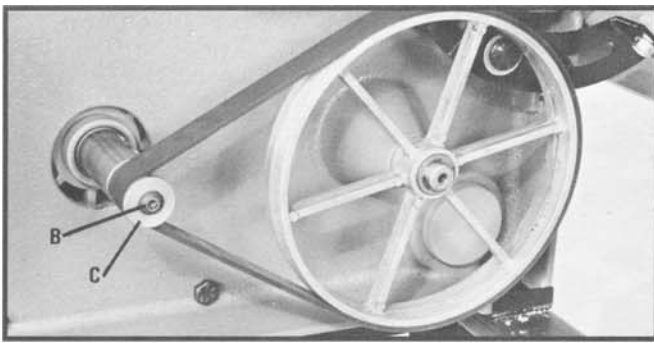

Fig. 28
5. Position metal cutting drive belt (F) Fig. 28, over driven wheel (G) and stretch drive belt over arbor (H). Turn driver wheel (G) by hand to insure drive belt runs true on both the wheel and arbor.